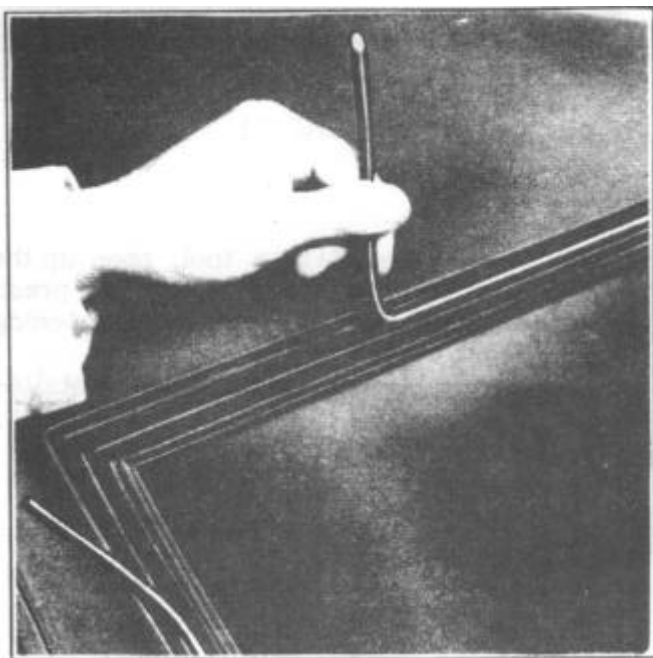

FIGURE 66
2. Remove the weatherstrip expander by prying out one end and then pull expander out of weatherstrip, Figure 66. To release the self locking type weatherstrip, insert a screw driver into the split joint and work the blade around the entire weatherstrip.